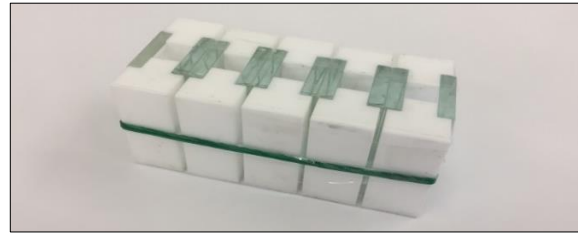
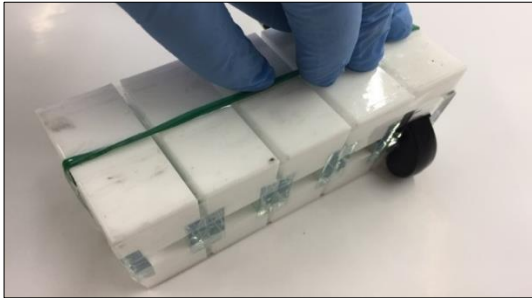

Figure 28: Arrangement and fixation of H-specimen with a rubber band and tape (transparent)
Figure 29: Completely filling of the H-specimens with adhesive, avoiding air bubbles
1. Fix the glass and/or metal (use original material specified in project) test specimens to be bonded with spacers [8] and, if applicable, distance pieces (Figure 28, Figure 29) so that a joint measuring 12 mm x 12 mm x 50 mm can be filled.